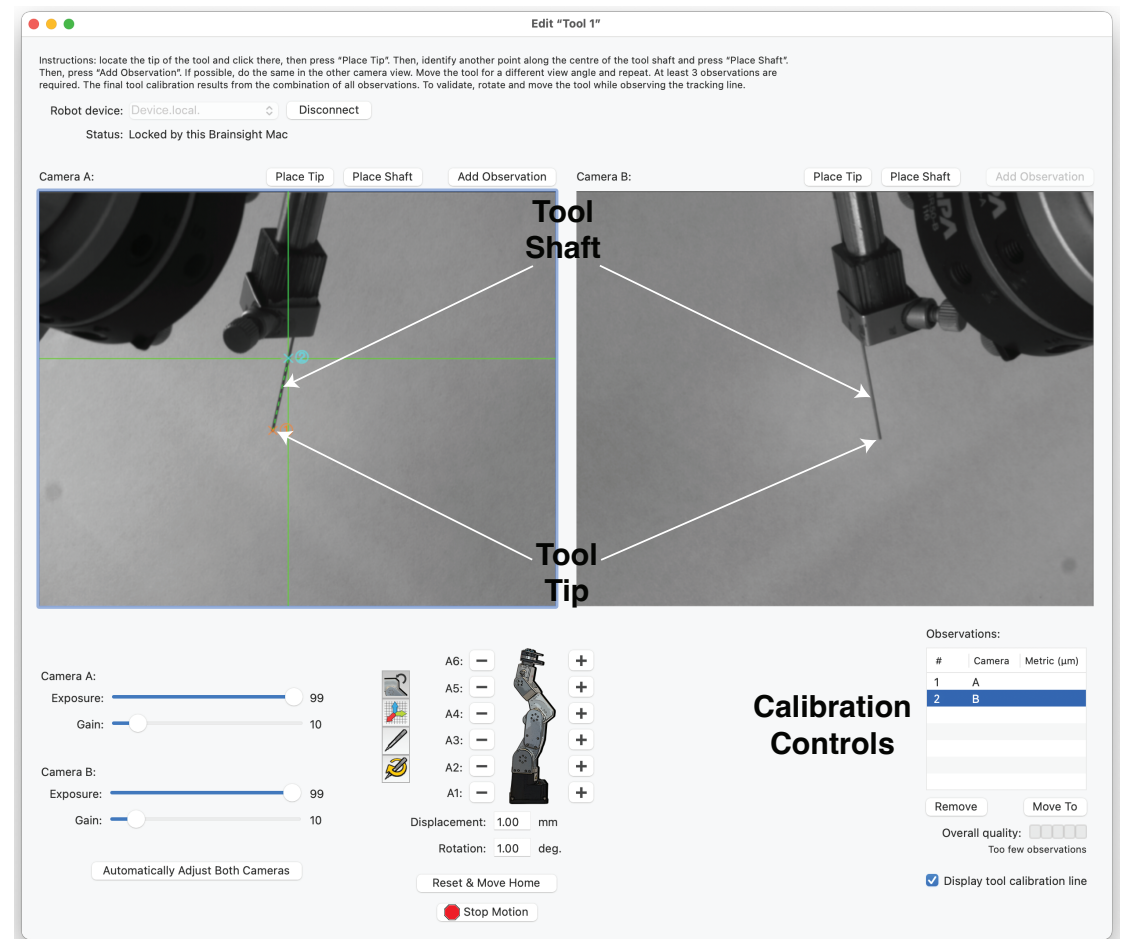

Fig. 4-3
2. Open the calibration window by clicking **Window->Tool Calibrations** (see Fig. 4-3).